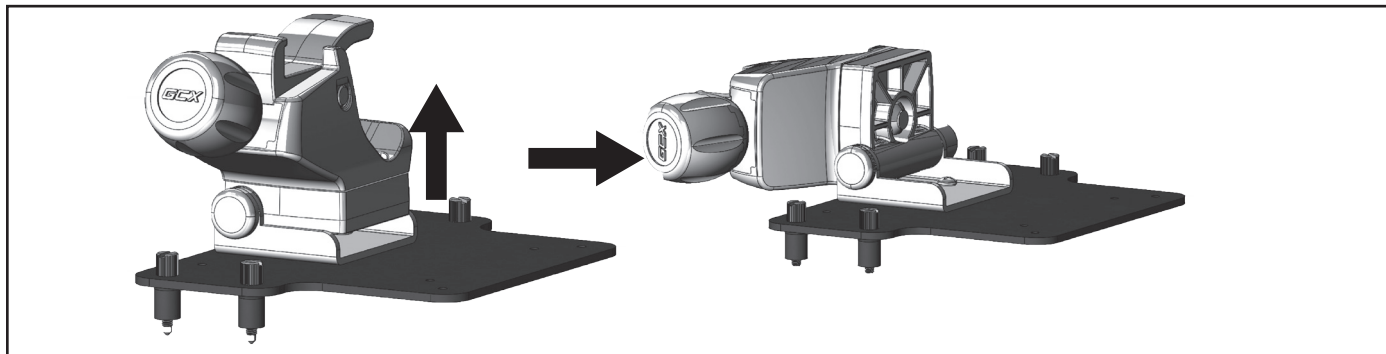

Figure 17. Open Swivel Mechanism
2. Open the swivel mechanism of the IV pole clamp 90° as shown in Figure 17.